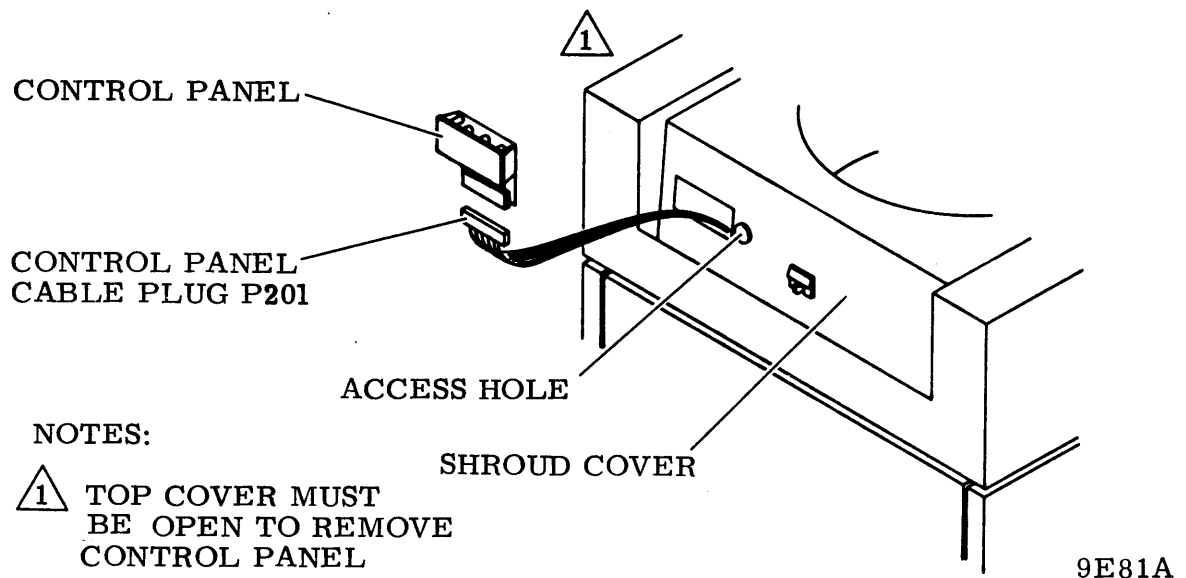

Figure 6-19. Operator Control Panel Replacement
4. Remove plastic plug from access hole in shroud cover (refer to figure 6-19).
5. Snap operator control panel out of its position in shroud cover (refer to figure 6-19).